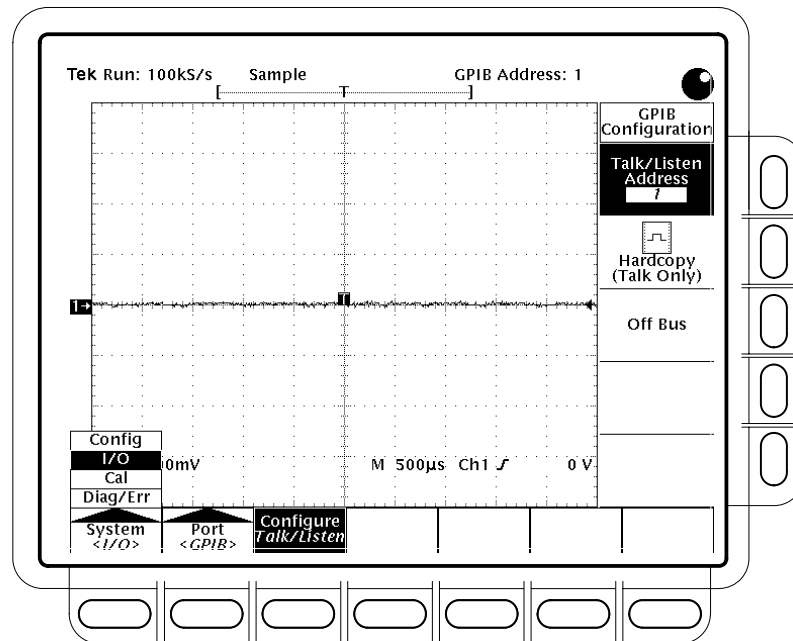

Figure 2: Selecting the I/O system in the main menu
2. Press the **System** button in the main menu until it highlights the **I/O** selection in the pop-up menu. See Figure 2.